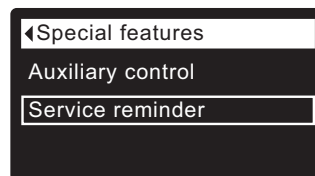

FIG. 83
5. Press the SELECT (O) button to display the Special features menu (See Figure 83).
9. Press the SELECT (O) button. The display will go back to the Special features menu (Figure 83).